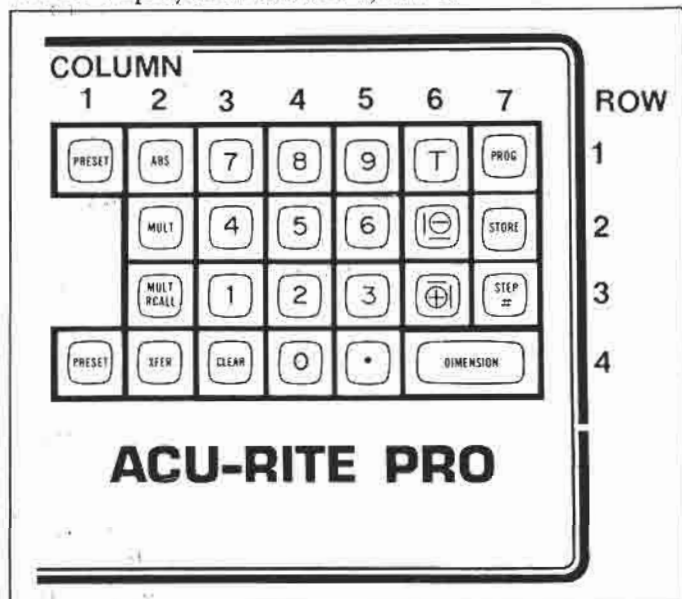

Figure 4-1. Keyboard Row / Column Format
The keyboard can be checked when the microprocessor checkout is complete and the displays are blank. As each key is pressed, the column number and row number of the key's location on the keyboard (Figure 4-1) will be displayed on the upper and lower axes, respectively. For example, if digit key 2 is pressed, a 4 will appear on the upper axis display and a 3 on the lower axis display to indicate the column-4, row-3 location of digit key 2. All the keys should be tested in a similar fashion to verify that they are functioning. A bad key would be indicated by a blank display or a display of numbers other than the proper column or row number. Of course, keys with lights should light when pressed.